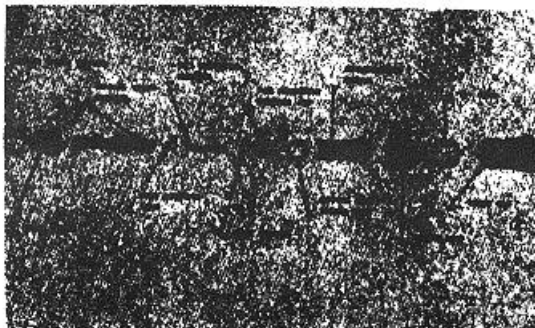

Figure 4-73. Pressure regulator assembly
17. If the pressure regulator has been disassembled, assemble in order shown in Fig. 4-73. The number of shims should be the same as removed until the fuel pump is tested at which time they may have to be increased or decreased.
4. Release cap and check indicator reading; it should indicate the amount of travel listed in the table on Page 4-20 or 4-24 under "By-Pass" Valve Settings With ST-492" if not add or remove shims from under the by-pass valve spring. See Fig. 4-73. Several readings should be taken to make sure the spring is moving freely; choose average value of several readings. Readings within .002" are within the required accuracy range. Make sure the shims you use are flat.
6. Remove shims to raise pressure or add shims to lower pressure. See Fig. 4-73.